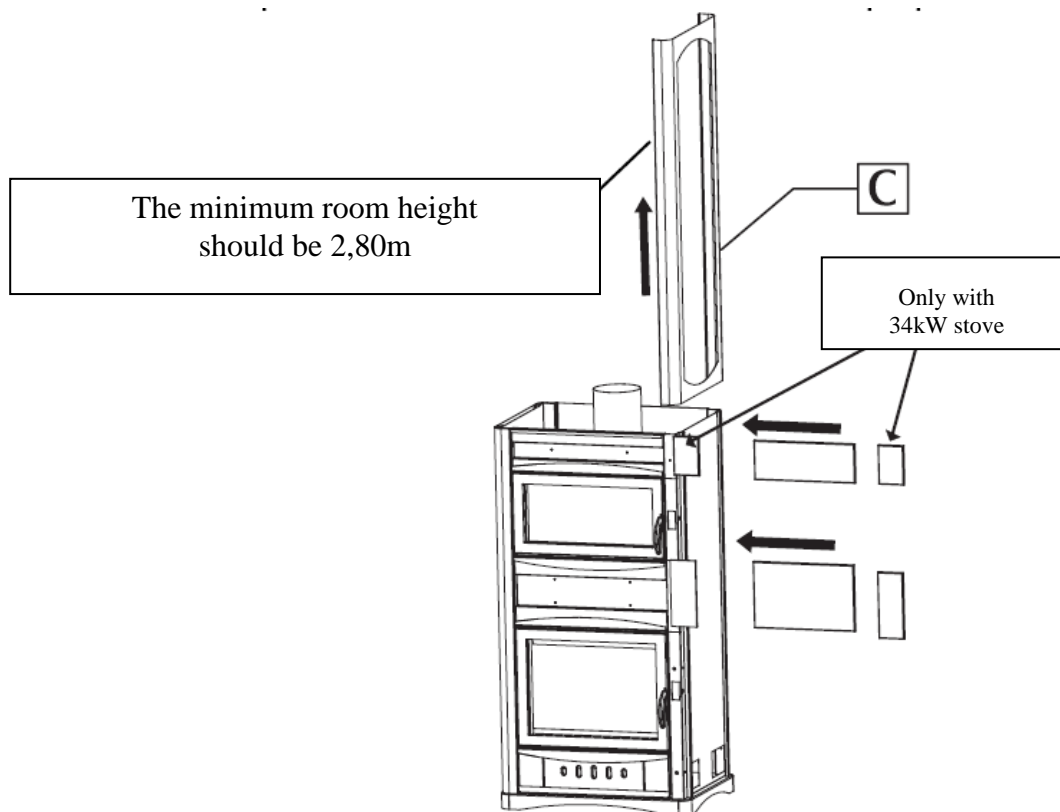

Figure 3.5: Front ceramics positioning
1. To assemble the front ceramics you have to remove the right panel of the stove, as shown in figure 3.5.
Place the larger piece in the centre as shown in Figure 3.5.